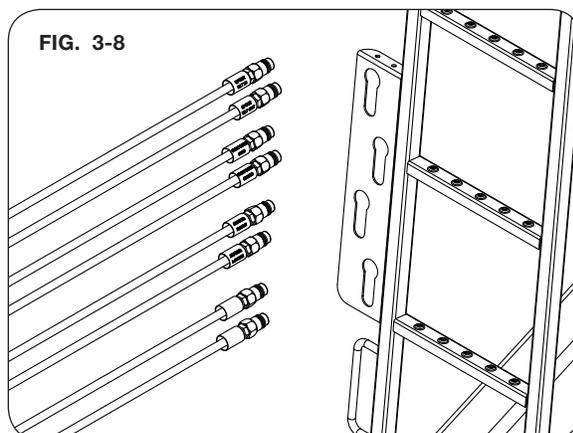

FIG. 3-8
- *When coupling hydraulic hoses to ports on the tractor, be sure that the coupler ends are clean of dust, dirt and debris. (FIG. 3-8) Failure to do so could contaminate hydraulic system resulting in excessive wear and possible failure.*